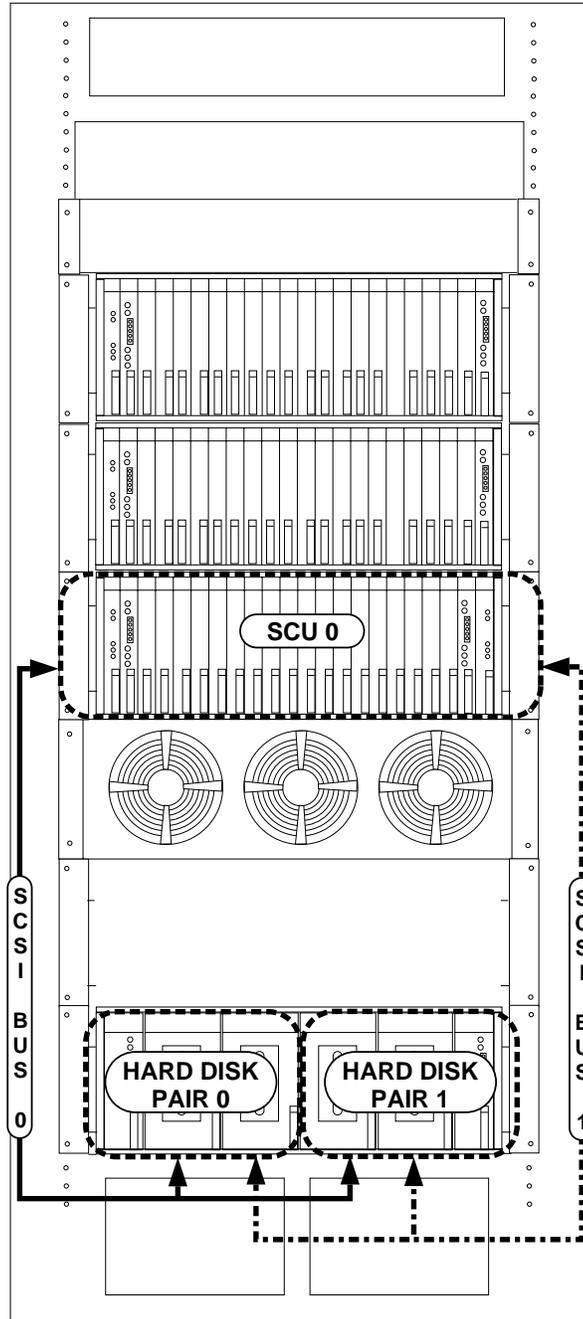

Figure 1. SCU, Associated Disk Pairs, and Bus Connections in the SCC Cabinet
8. Following all existing electrostatic discharge practices, remove the destination SCU's Bus 0 hard disk circuit pack. (See Figure 1 or 2 to determine the Bus 0 hard disk circuit pack location.) Set this pack aside for later use.
9. Following all existing electrostatic discharge practices, remove the source SCU's Bus 0 hard disk circuit pack. (See Figure 1 or 2 to determine the Bus 0 hard disk circuit pack location.)